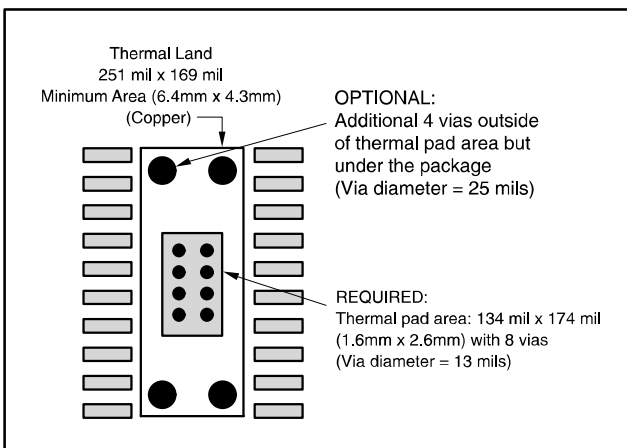

FIGURE 7. 20-Pin PWP PowerPAD PCB Etch and Via Pattern.
1. Prepare the PCB with a top side etch pattern, as shown in Figure 7. There should be etch for the leads as well as etch for the thermal land.
2. Place the recommended number of holes (or thermal vias) in the area of the thermal pad. These holes should be 13 mils in diameter. They are kept small so that solder wicking through the holes is not a problem during reflow. The recommended number of holes for the HTSSOP–20 PowerPAD package is eight, as shown in Figure 7.
3. It is recommended, but not required, to place a small number of the holes under the package and outside the thermal pad area. These holes provide additional heat path between the copper land and ground plane and are 25 mils in diameter. They may be larger because they are not in the area to be soldered, so wicking is not a problem. This is illustrated in Figure 7.